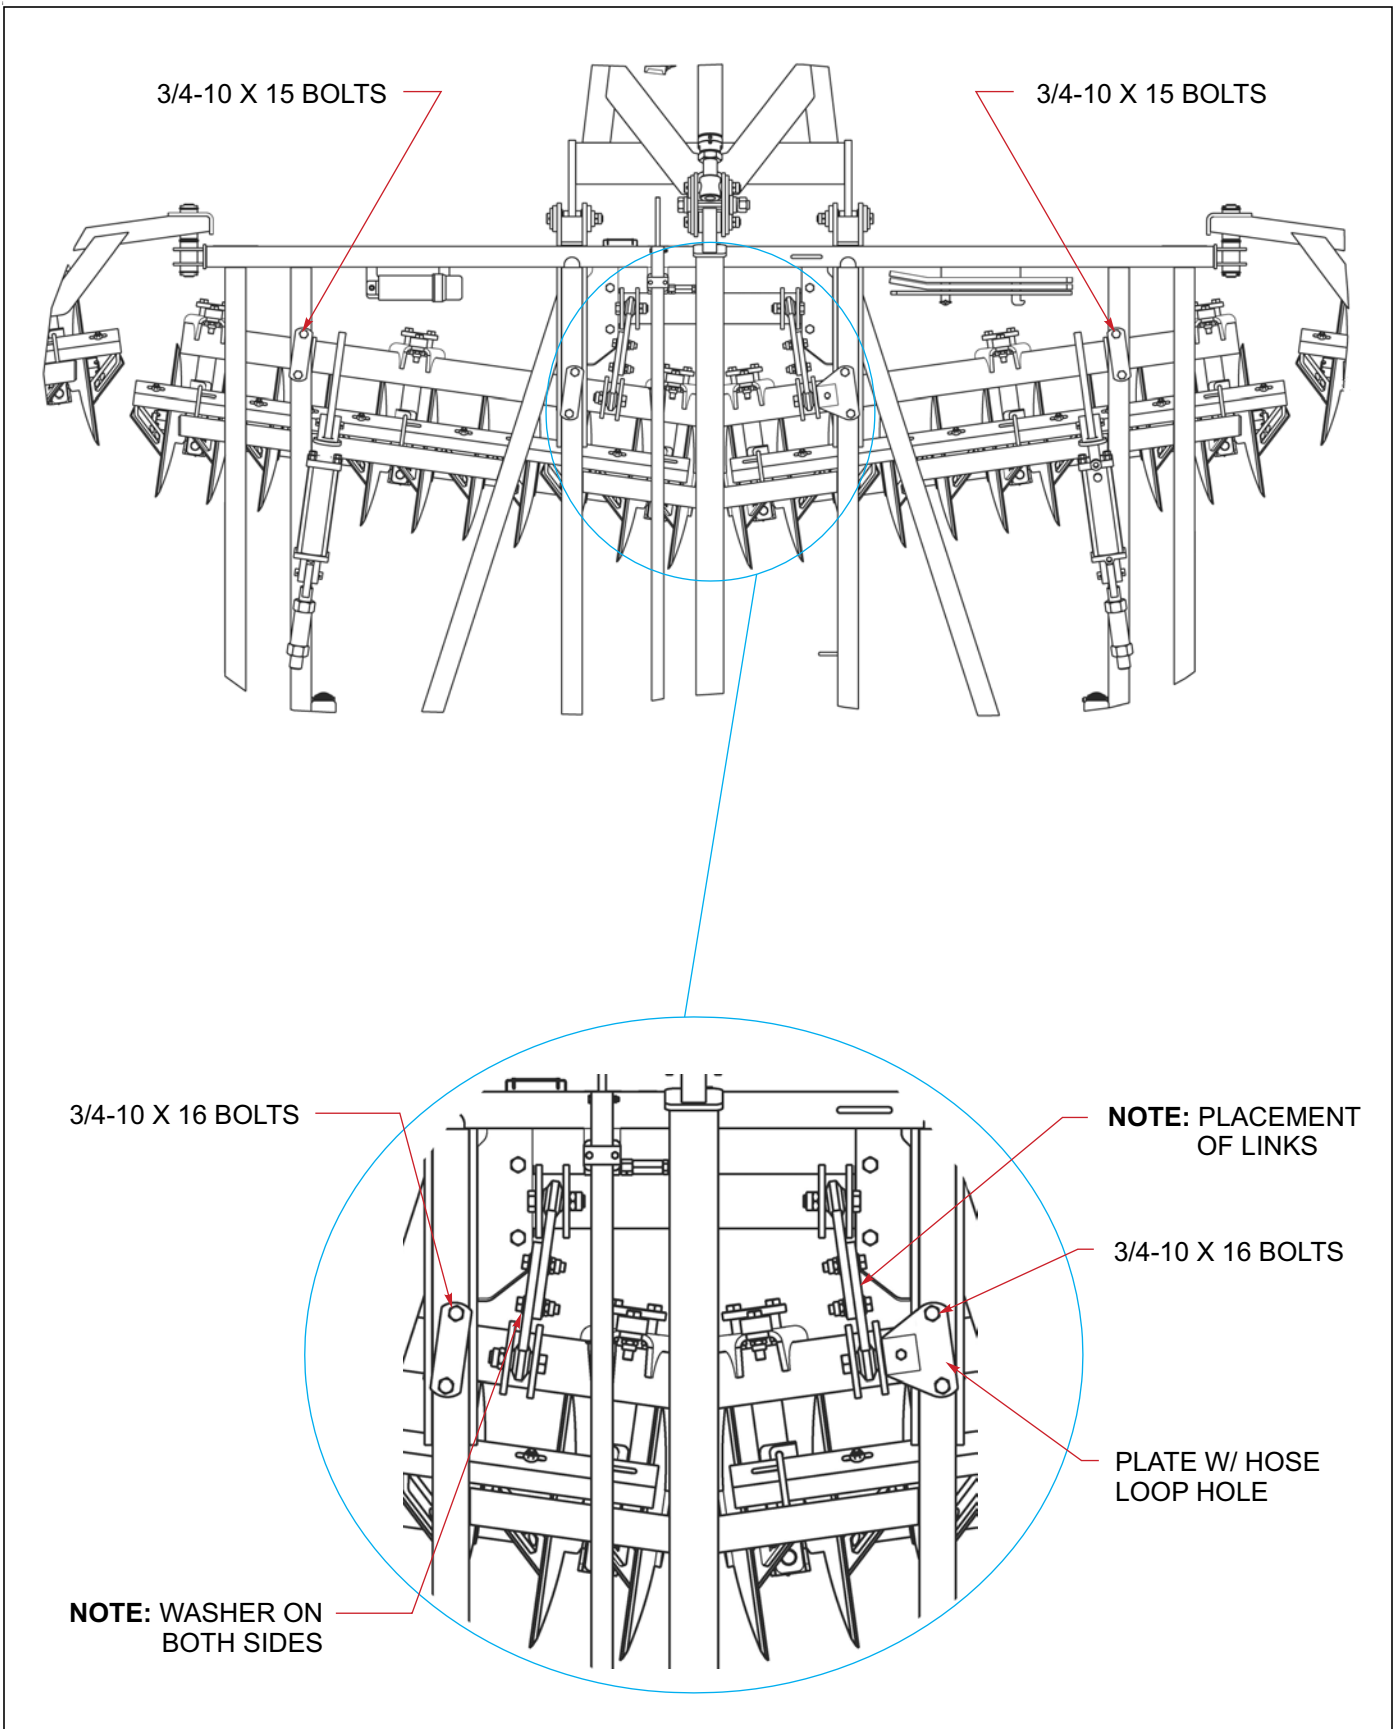

Figure 3-16: Disc Gang Installation (1 of 2)
2. Align the cylinder mounts on the disc gang assemblies with the mounts on the center frame to properly position the gangs. The 3/4-10 x 16 bolts will be used on the inner tubes of the frame and the 15" bolts will be used on the outer tubes. There will be clamp plates used on the top and bottom of the frame tubes. On the right side of the frame the inner top clamp plate will be the one with a separate hole in it to mount a hydraulic hose clamp to (See **Figures 3-16 and 3-17.**)